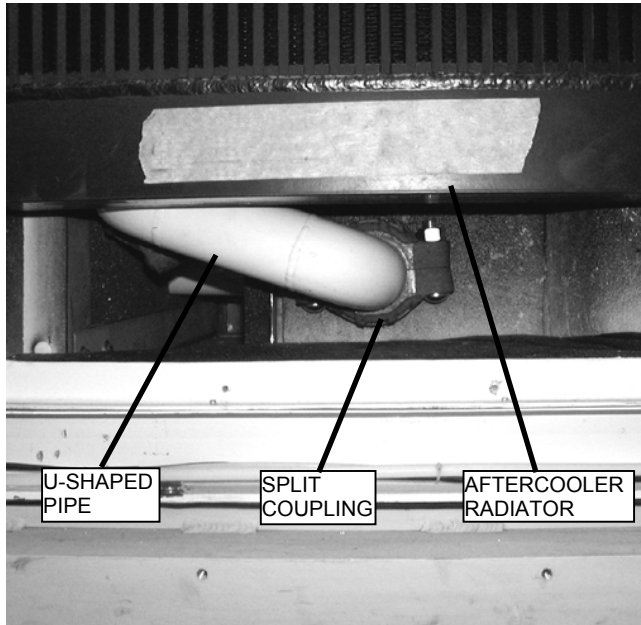

Figure 5. Valve Inlet Pipe.
- b. Remove the panel below the aftercooler radiator (HX-100). Refer to Figure 5.
- c. Remove the split coupling attaching the U-shaped pipe to the valve inlet pipe (see Figure 5).